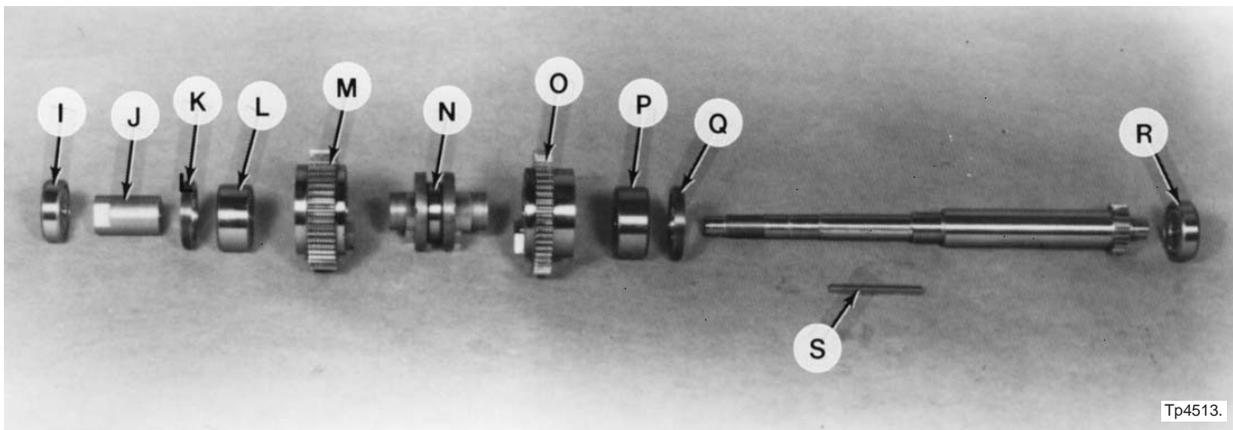

Figure 4.57 - Clutch Shaft Assembly
- a) Press bearing “I”, Figure 4.57, off the shaft.
- a) If removed, press bearing "R", Figure 4.57, onto the shaft.